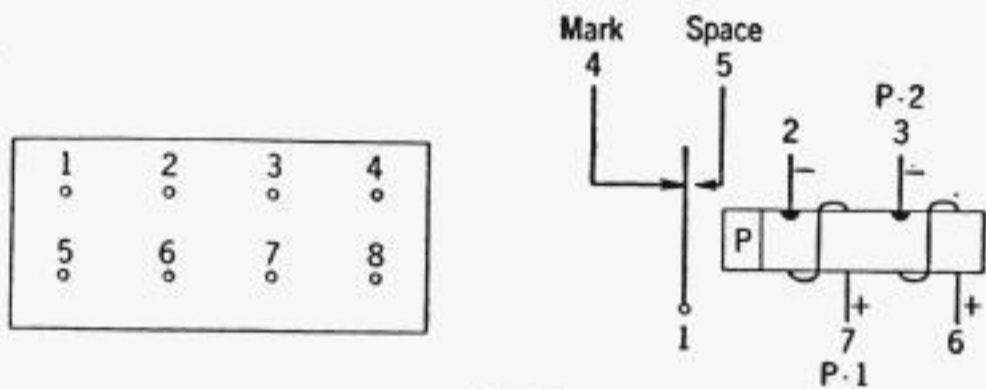
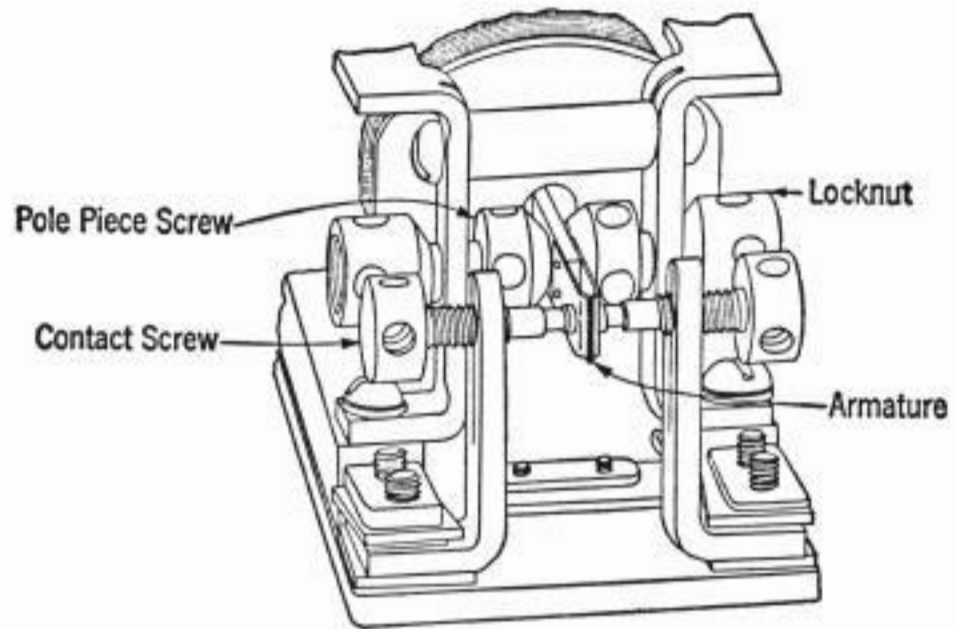

Fig. 1A
Fig. 2—215-Type Relay
1.04 These relays are of the polar type, used with teletype-writers and teletypewriter subscriber sets as well as in certain other applications. When used as line relays they may be operated by either neutral or polar signals. For use in circuits operated by neutral or open-and-close signals, one winding is connected in the line circuit and the other winding has a locally supplied biasing current. For use in circuits operated by polar signals, the two windings are usually connected in series—aiding in the line circuit. The arrangements of the relay windings and terminals are shown in Figs. 1A and 1B. Figs. 2 to 4 illustrate the relays as viewed from the front with the covers removed.